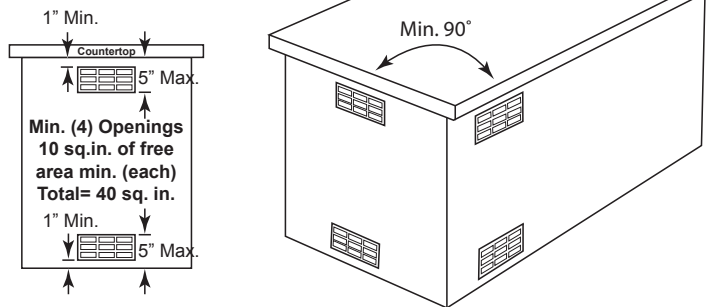

Figure 9
**One side of the enclosure shall be kept completely open to the outside OR four (4) minimum ventilation openings MUST be provided:**
- Two openings must be in the side walls of the enclosure, at the top and spaced a minimum of 90° from each other. The openings must begin 1" or less below the countertop edge and end no more than 5" below the countertop edge. See Figure 9.
The clearance between the openings and any items outside of the enclosure is a minimum of 6". The clearance between the openings and any items within the enclosure is a minimum of 2". This provides free flowing air inside and outside the enclosure to keep the island cool during operation of the grill. See Figure 9.